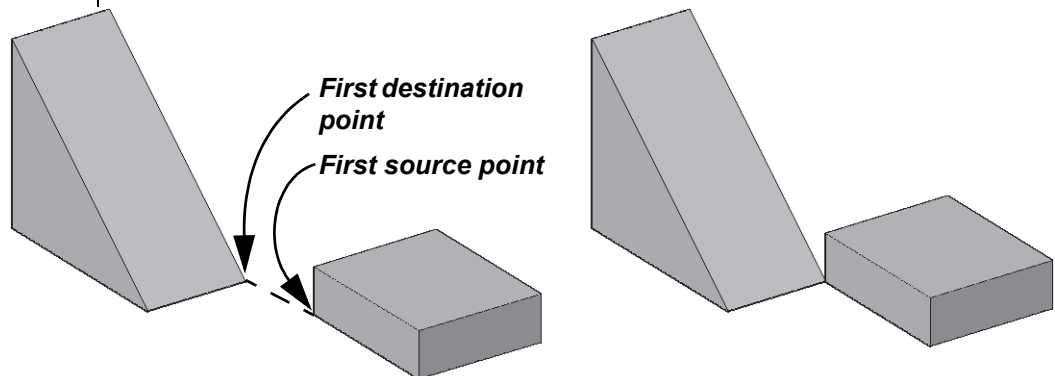

Figure 5–13
- If you press <Enter> the object is moved from the source point to the destination point, as shown in Figure 5–13.